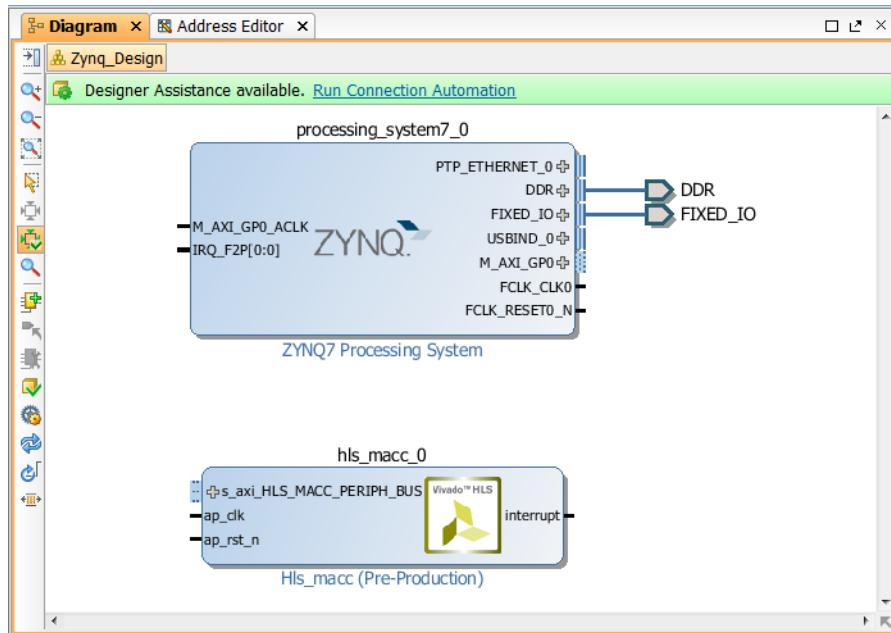

Figure 10-19: Processor and HLS IP
- b. Type `hls` in the Search text entry box and press **Enter** to add it to design (Figure 10-19).